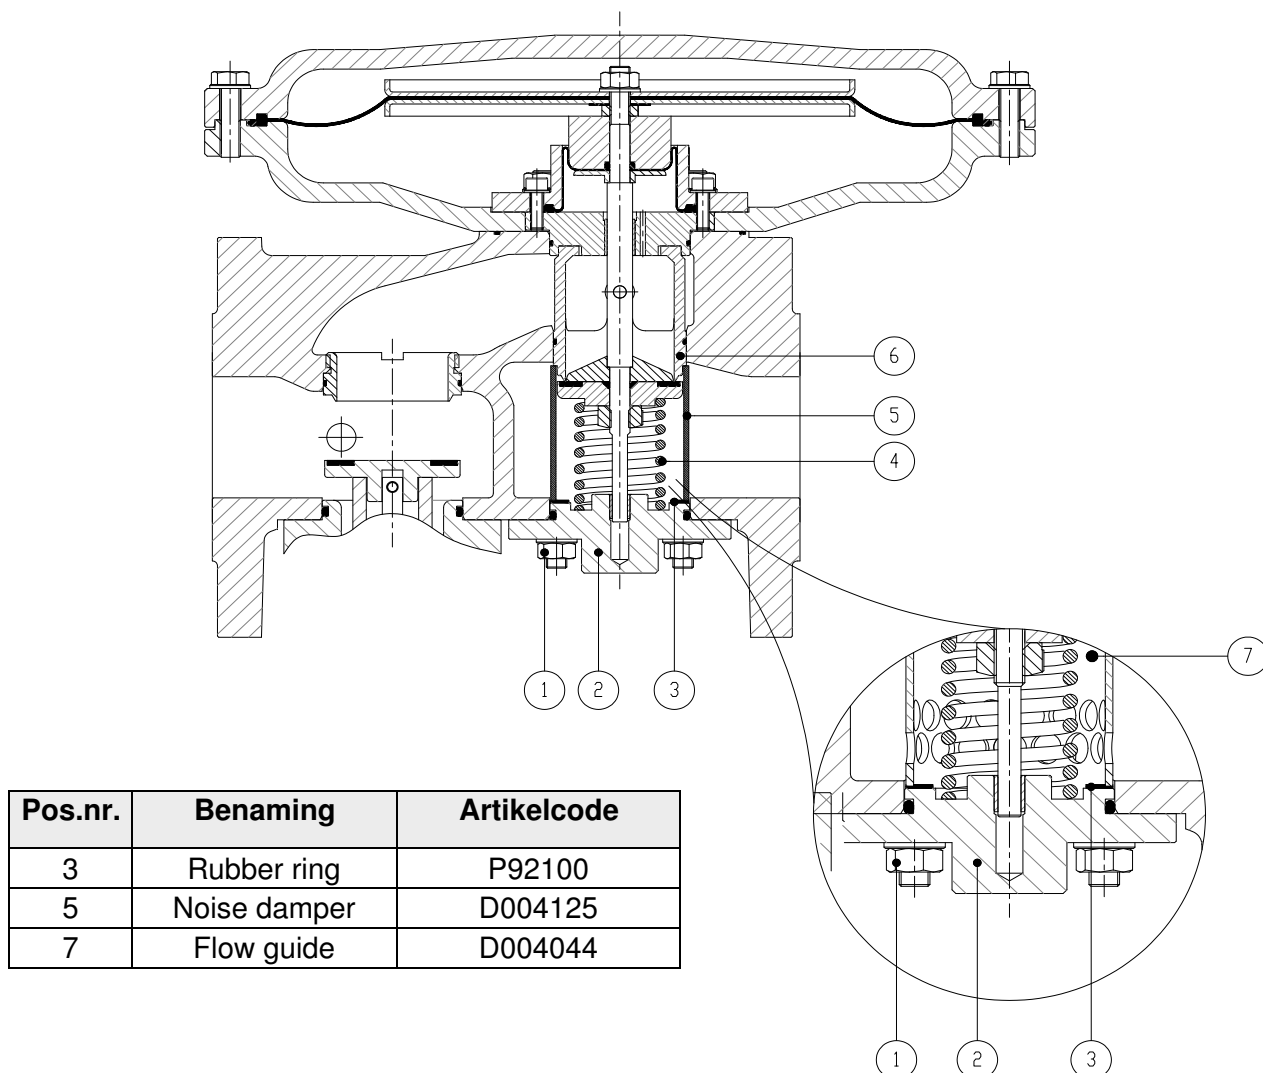

Figure 1: Assembled noise damper (magnified flow guide instead of noise damper).
Remove the four bolts (1), see figure 1, which allow the valve cover (2), closing spring (4) and flow guide (7) to come out of the regulator. Replace the flow guide (7) with the noise damper (5). If required, remove the old rubber ring (3), degrease the valve cover and fit a new rubber ring (3). Place the closing spring (4) on the valve cap (2) and position the noise damper (5) on the rubber ring (3) and slide it into the regulator, placing the noise damper around the insert (6). Screw the four bolts (1) crosswise.
Remove the four bolts (1), see figure 1, which allow the valve cover (2) and the closing spring (4) to be removed. Degrease the valve cover on the inside (adhesive surface above the O-ring). Stick the rubber ring (3) concentrically on this surface. Place the closing spring (4) on the valve cover. Position the noise damper (5) on the rubber ring (3) and slide it into the regulator, placing the noise damper (5) around the insert (6). Screw the four nuts (1) crosswise.
Remove the four bolts (1), see figure 1, which allow the valve cover (2) with locking spring (4) and the flow guide (7) to be removed from the regulator. Then remove the rubber ring (3) from the valve cover (2). Place the prescribed closing spring (4), belonging to the 37.5 mm and 42.5 mm insert, on the valve cover (2) and push it upwards into the regulator. Screw on the four bolts (1) crosswise.
Remove the valve cap (2) and the closing spring (4), see figure 1, by unscrewing the four bolts (1). Degrease the valve cover on the inside (adhesive area above the O-ring). Stick the rubber ring (3) concentrically on this surface. Place the prescribed closing spring (4), belonging to the 17.5 mm, 22.5 mm and 27.5 mm insert, on the valve cover. Position the flow guide (7) on the rubber ring (3) with the holes of the flow guide on the valve cover side. Slide the assembly into the regulator, placing the flow guide around the insert (6). Screw on the four nuts (1) crosswise.